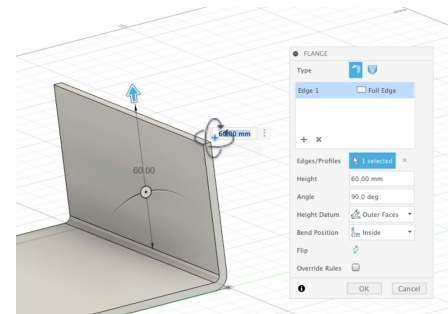

Figure 1.9
- Once you've added the bend, new options such as Height and Angle will appear in the dialog box (see Figure 1.9).